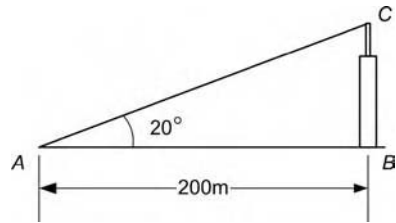

Figure 2.26 Situation for airfield control tower and radio mast.
The situation is illustrated in Figure 2.26. Since we have both the opposite and adjacent sides to the angle of elevation, we use the tangent ratio to solve the problem.
Then from Figure 2.26, $\tan 20 = \frac{BC}{AB}$ so $BC = (\tan 20) \times (AB) = (0.364) \times (200) = 72.8$ m, all we now need to do is add the height of the theodolite viewing piece from the ground. Then the height to the top of the mast is $72.8 + 1.6 = 74.4$ m.